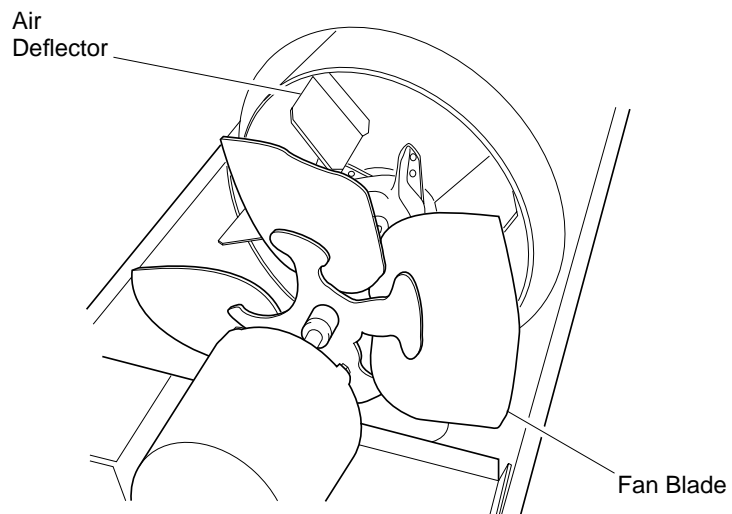

Figure 5 - Fan Blades and Air Deflectors
2. Clean fan blades and air deflectors with clean, soft cloth moistened with kerosene or solvent (see Figure 5).